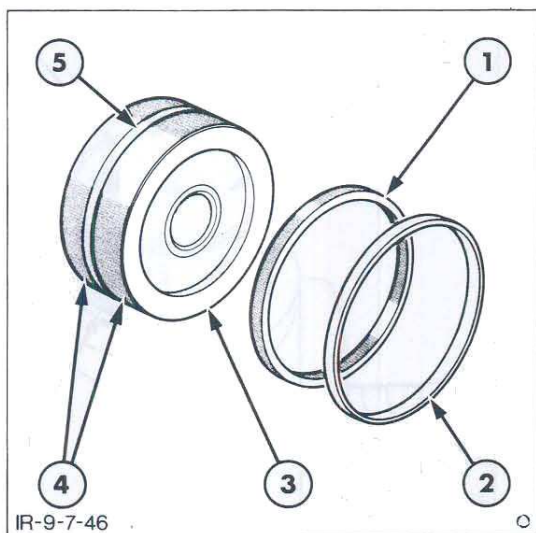

Figure 45
1. Remove the piston seal and the rubber expander ring, Figure 45.